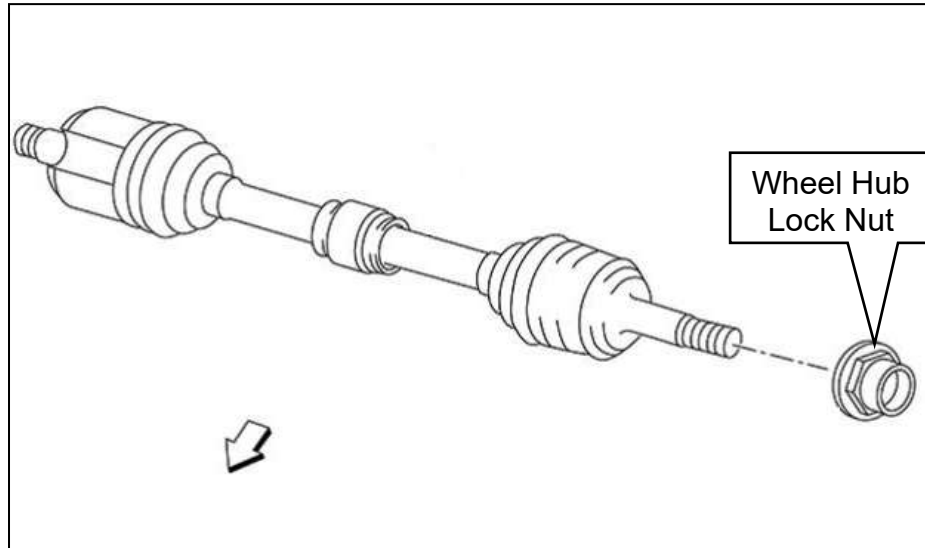

Figure 12
11. Replace the Front LH Drive Shaft (Figure 12).
- Refer to the ESM: **TRANSMISSION & DRIVELINE > FRONT AXLE > REMOVAL AND INSTALLATION > FRONT DRIVE SHAFT > Removal and Installation (LH)**